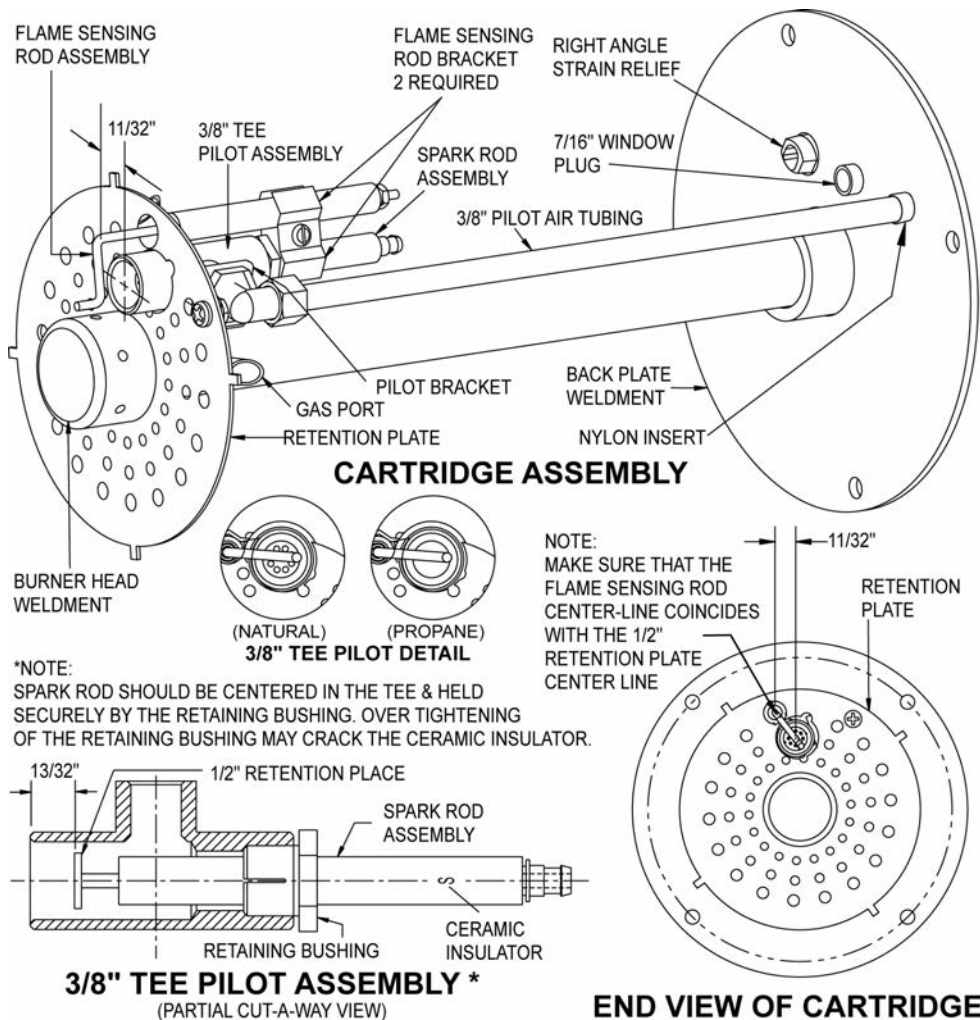

Figure 6 : General Assembly for RE6000 Series
- The spark rod for a natural gas burner is welded to a round 1/2" **perforated** retention plate. (The spark rod for a propane gas burner is welded to a round 1/2" **solid** retention plate.) The 1/2" retention plate is centered in the 3/8" Tee pilot and is positioned so the high tension voltage will arc to the inside of the 3/8" Tee pilot. (See Figure 6).
- The flame sensing rod must be positioned as shown in Figure 6 so that the controller will detect a proper flame.
- The pilot air tubing must be kept free of kinks or inside obstructions and must be positioned per Figure 6, otherwise air flow could be reduced and adversely affect the pilot flame.